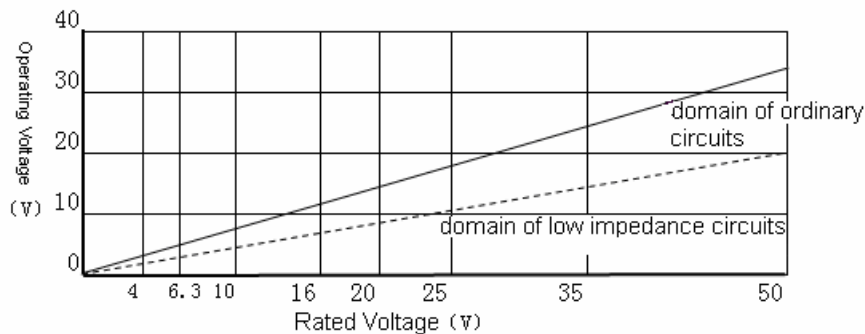

Fig.7.5-1
- a. The operating voltage of tantalum capacitors used in low impedance circuits, such as filters for power supplies (particularly switching power supplies), should be derated to less than one-third of rated voltage. In other case, keep the operating voltage below two thirds of rated voltage. Refer to **Fig.7.5-1** for detail:
- c. Connecting a resistor in series with capacitor is suggested to alleviate the shock caused by excessive momentary current. Please connect a protecting resistor of 3Ω/V or higher in series with the capacitor to keep current below 300mA. If protecting resistors could not be applied; please make sure operating voltage is below one-third of rated voltage (**Fig.7.5-1**).